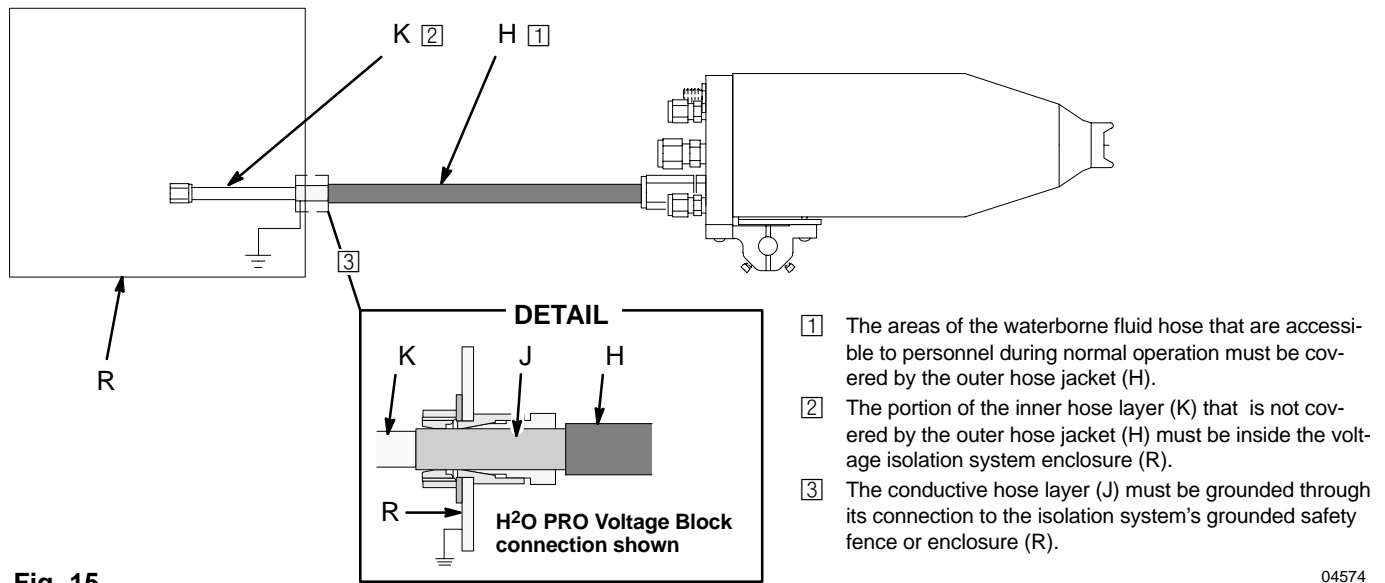

Fig. 15
9. Connect the other end of the hose as instructed in the voltage isolation system manual. See Fig. 15.
To reduce the risk of an electric shock, the areas of the waterborne fluid hose that are accessible to personnel during normal operation must be covered by the outer hose jacket (H). See Fig. 15.